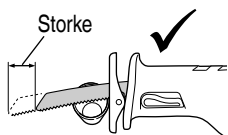
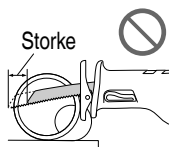

Fig. 15
Fig. 16
- Select a saw blade of the most appropriate length. Ideally, the length protruding from the base of the saw blade after subtracting the stroke should be larger than the material (see Fig. 15 and Fig. 17). If you cut a large pipe, large block of wood, etc., that exceeds the cutting capacity of a blade; there is a risk that the blade may contact with the inner wall of the pipe, wood, etc., resulting in damage. (Fig. 16, Fig. 18)